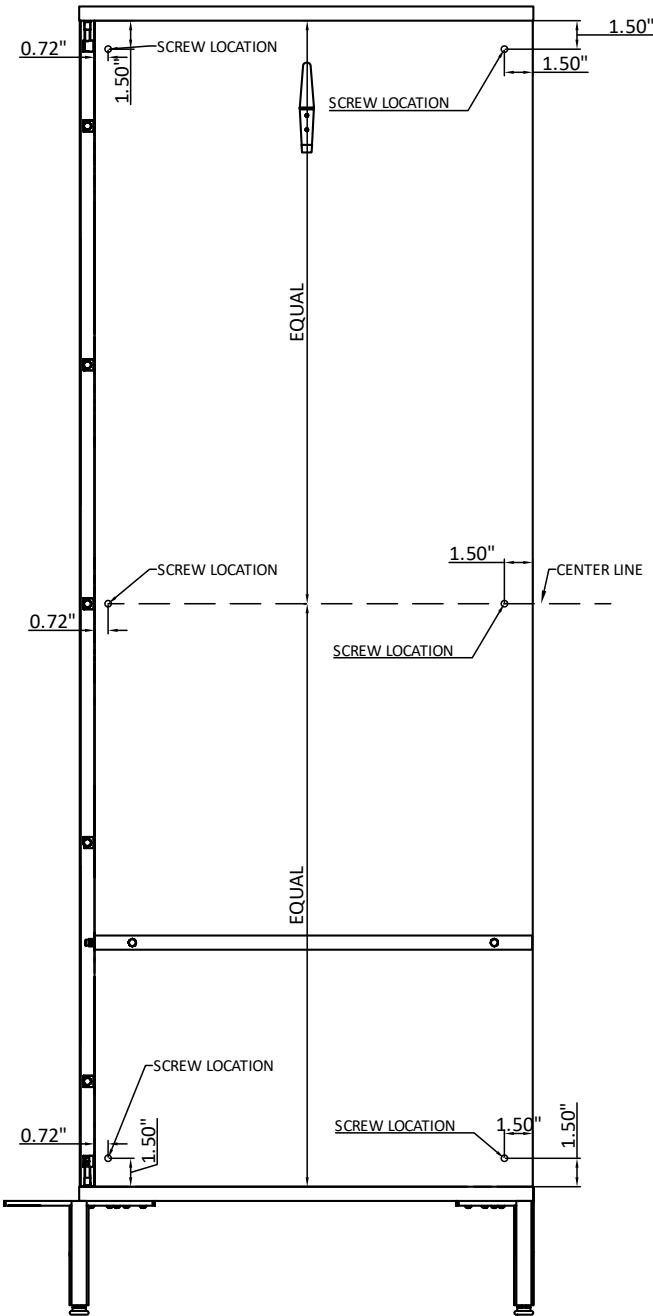

Figure 1
- 1. Mark the location of the screws at the inner side of locker, (Figure 1).